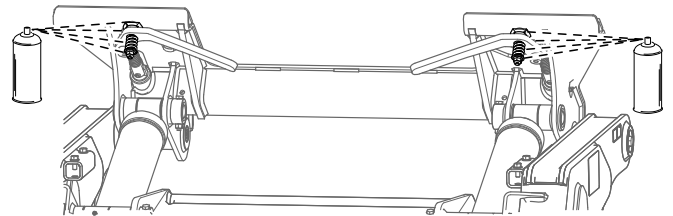

Figure 43
7. Lubricate the quick-attach linkages using spray lubricant (Figure 43).